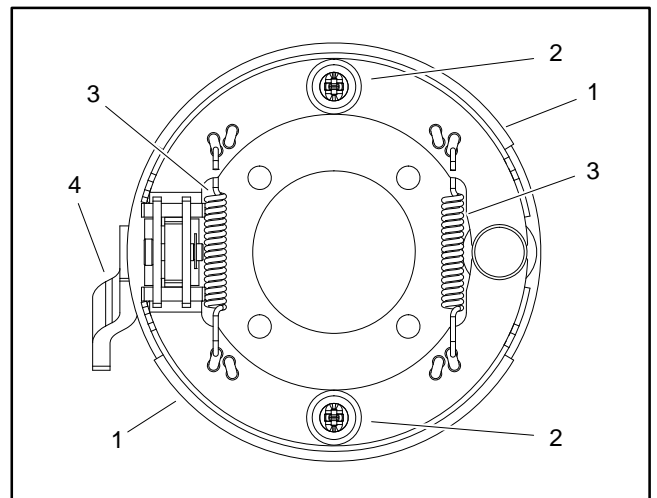

Figure 9
9. Remove shoe springs from brake shoes (Fig. 9).
10. Remove shoe hold down cups and springs. Remove brake shoes and hold down pins from backing plate (Fig. 9).
11. If necessary, remove backing plate from machine by removing four (4) cap screws (item 6).
2. If backing plate was removed from machine, position backing plate to wheel motor with brake lever inserted into slot of brake lever tab. Secure backing plate to wheel motor with four (4) cap screws (item 6).
4. Position one brake shoe to the backing plate. Install brake hold down pin and secure with hold down spring and cup (Fig. 9). Repeat for second brake shoe.
5. Install shoe springs to brake shoes (Fig. 9). Make sure that brake shoes are properly positioned to pivot and actuator points.